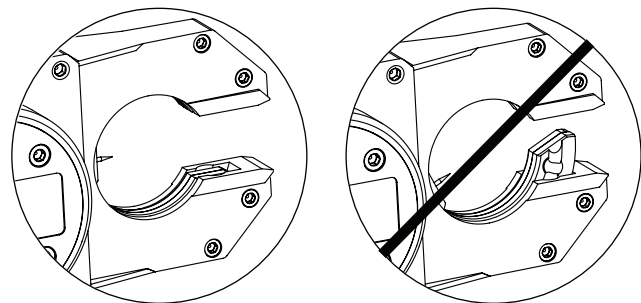

Figure 37 Rotor Position
3. Verify proper rotor position. See Figure 37.